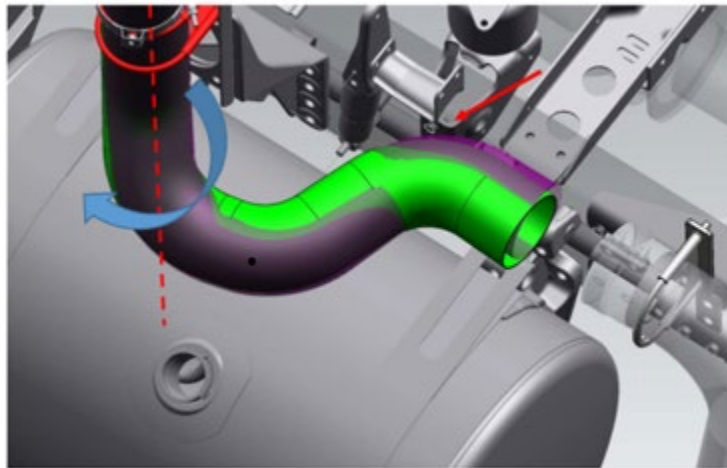

Fig. 8, Rotate the Exhaust Pipe Clockwise
15. To increase clearance between the exhaust pipe and lower cab support bracket, rotate the exhaust pipe clockwise as shown in **Fig. 8**.